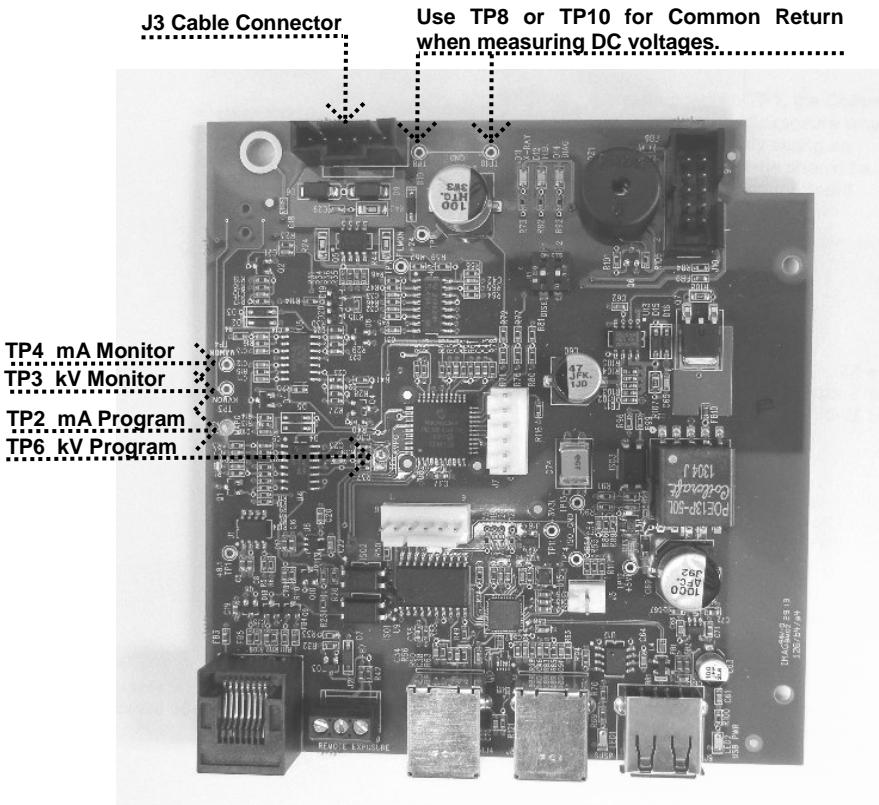

Figure 62
3. If the cabling is found acceptable, select 1.5 seconds of exposure time, and placing a DC voltmeter on TP8 or TP10, the Common Return on the Logic Board, measure the feedback values at TP4 mA Monitor and TP3 kV Monitor, as shown in *Figure 62*. Look for the following values:
1. On the Logic Board, place a voltmeter on TP8 or TP10, the Common Return, and TP6, kV Program, as shown in *Figure 62*. Compare measurements to the following chart (volts DC).
2. To evaluate the feedback voltages that represent the measured kV within the system, compare the observed values in the table below. To properly observe these values, select 1.5 seconds of exposure time and measure the DC voltages during the exposure only. This measurement is made across TP8 or TP10, the common return and TP3, the kV Monitor, as shown in *Figure 62*.
1. On the Logic Board, place a voltmeter on TP8 or TP10, the Common Return and TP2, mA Program, as shown in *Figure 62*. Compare measurements to the following chart (volts DC).
2. To evaluate the feedback voltages which represent the measured mA within the system, refer to the table below; select 1.5 seconds of exposure time and measure the DC voltages during the exposure only. This measurement is made across TP8 or TP10, the Common Return, and TP4, the mA Monitor, as shown in *Figure 62*.